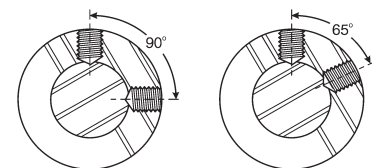

Figure 2 - Set Screw Angles
5. Set screw holes in the sprocket hub must be placed properly for maximum holding strength. For both standard and shallow keyseats, two (2) set screws should be used as illustrated in Figure 2. The total holding strength of the set screws is dependent upon their placement and design. Generally, one screw should be placed directly over the keyway, and the other screw at ninety degrees (90°) from the keyway, or at sixty-five degrees (65°) from the keyway—a more recent practice that improves holding power. Sometimes four set screws (or two pair) are used for increased holding strength.